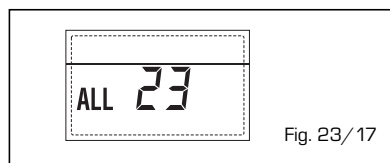

Fig. 23/17
**- ANOMALIA SONDA COLLETTORE SOLARE (S1) "ALL 24" (fig. 23/18)**